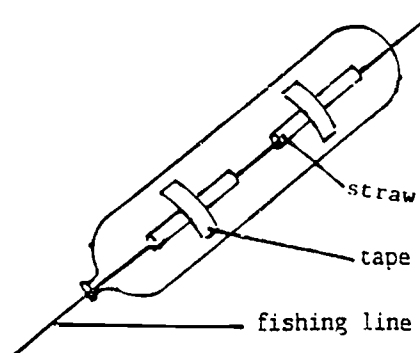

Fig. 29
4. Attach straws to the balloon with tape and run fishing line through the straws as shown in fig. 29